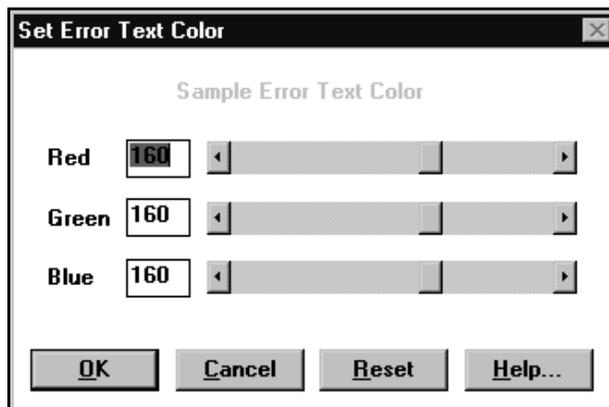

FIGURE 76. Set Error Text Color dialog box
9. To set Error Text Color, select the Set Error Text Color button. (See Figure 76.)